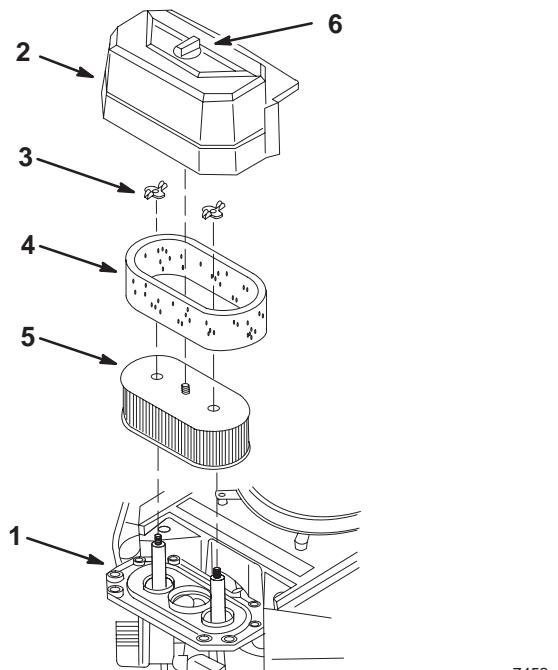

Figure 35
3. Clean around the air cleaner to prevent dirt from getting into the engine and causing damage (Fig. 35).
4. Unscrew the cover knob and remove the air cleaner cover (Fig. 35).
5. Unscrew the 2 wing nuts and remove the air cleaner assembly (Fig. 35).
6. **Carefully** pull the foam element off the paper element (Fig. 35).
1. Lightly tap the element on a flat surface to remove dust and dirt (Fig. 35).
1. Carefully slide the foam element onto the paper air cleaner element (Fig. 35).
2. Place the air cleaner assembly onto the air cleaner base and secure it with the 2 wing nuts (Fig. 35).
3. Place the air cleaner cover into position and tighten the cover knob (Fig. 35).